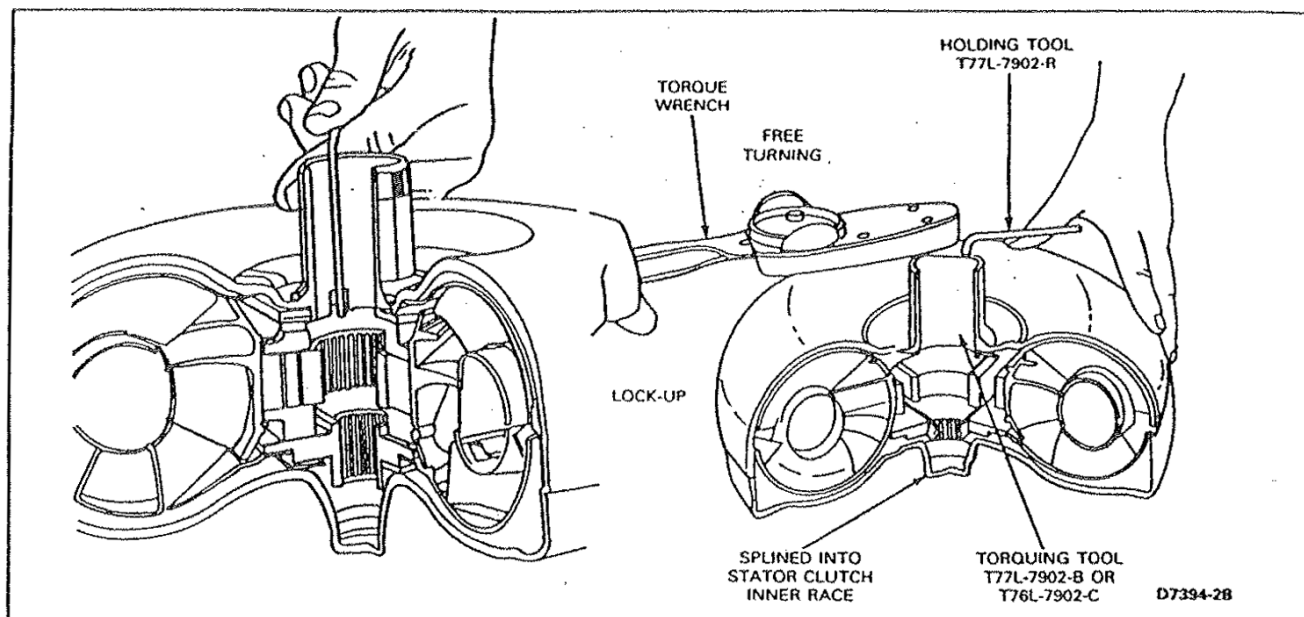

FIG. 34 Checking Converter One-Way Clutch
1. Insert the one way clutch holding Tool T77L-7902-R (Fig. 34), in one of the grooves in the stator thrust washer.
2. Insert the one way clutch torquing Tool, (T77L-7902-B) in the converter pump drive hub so as to engage the one way clutch inner race, (Fig. 34).